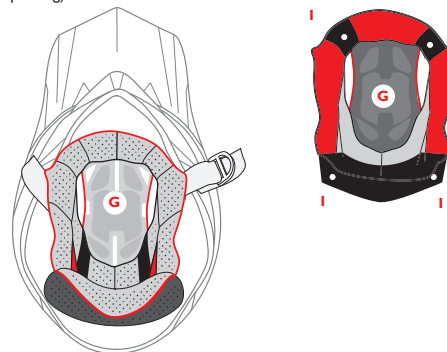

FIGURE 6
**Inner central padding: INNER SHELL — G — Figure 6